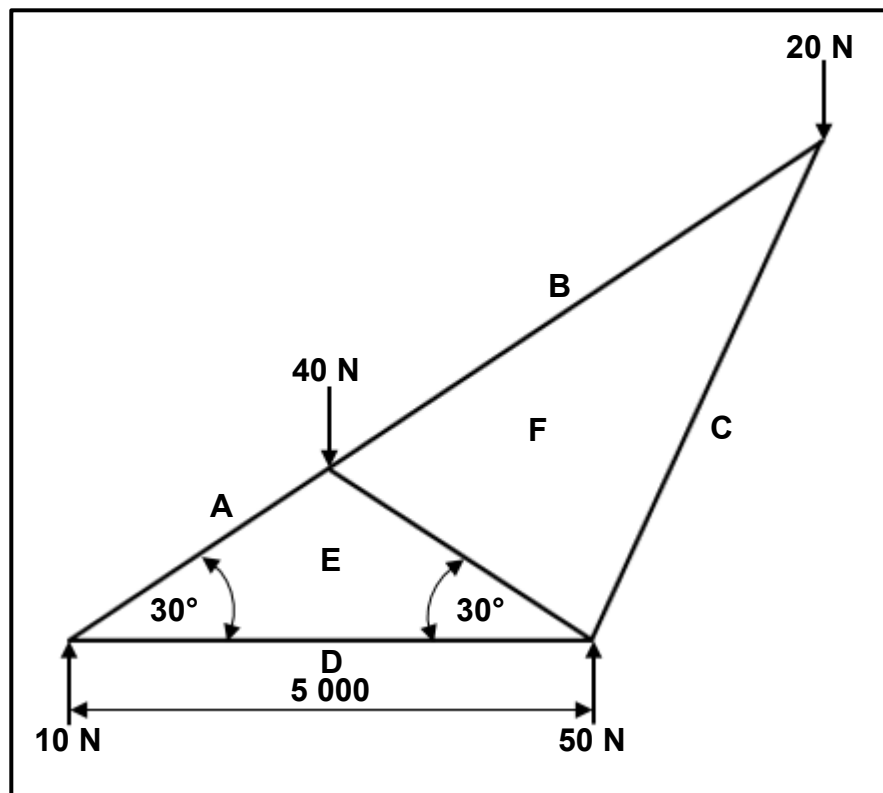

FIGURE 7.3
- (5)
- 7.3 FIGURE 7.3 below shows a roof truss for a warehouse. Study the diagram and answer the questions that follow.